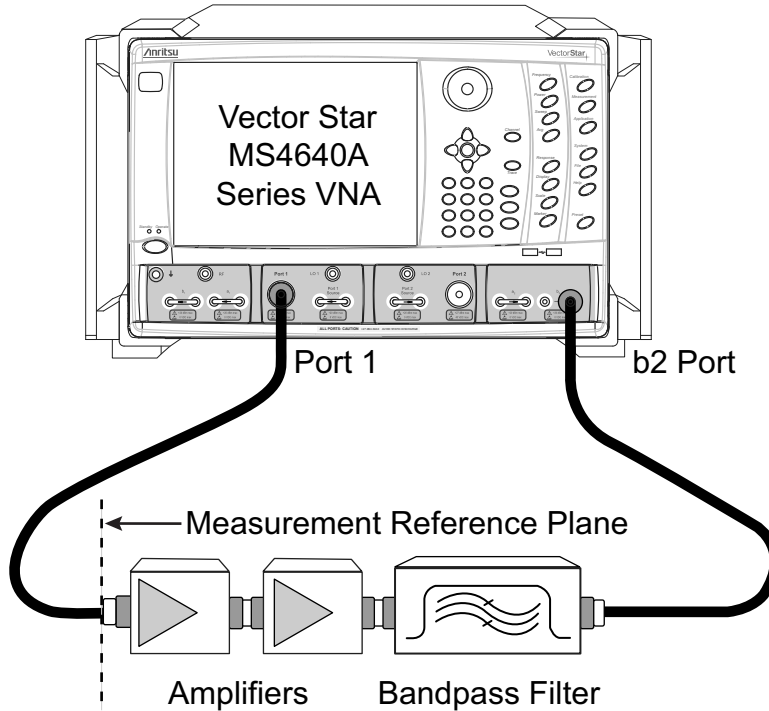

Figure 1-1. Composite Receiver Calibration
4. Receiver calibration (transferring the traceable power accuracy to the receiver) as shown in Figure 1-1.